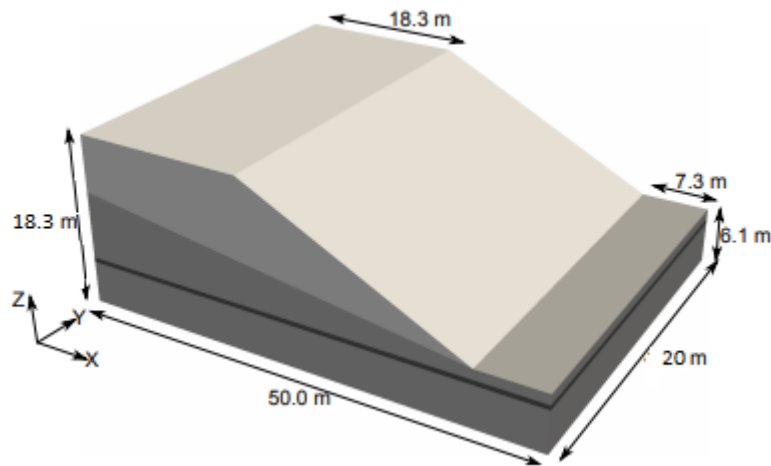

Fig 2.41 - Geometric model of the problem
- Typical dimensions are shown in Figure 2.41.